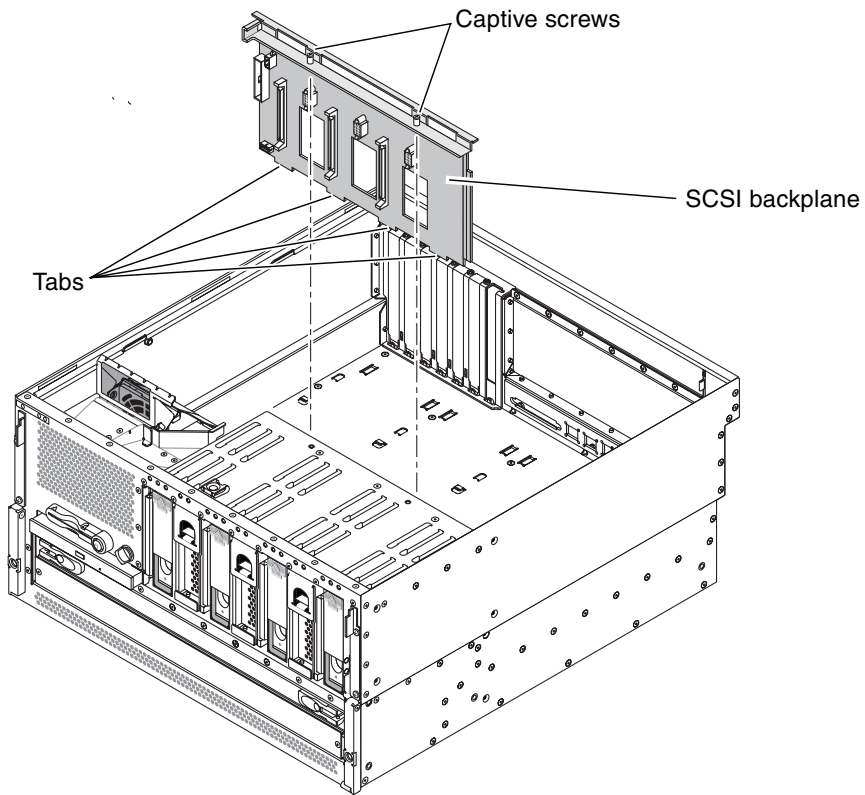

FIGURE 4-16 Removing the SCSI Backplane
11. Unscrew the two captive screws that secure the SCSI backplane to the system (FIGURE 4-16).
1. **Place the SCSI backplane into the system so the four tabs on the bottom of the SCSI backplane align with the slots in the system (FIGURE 4-16).**